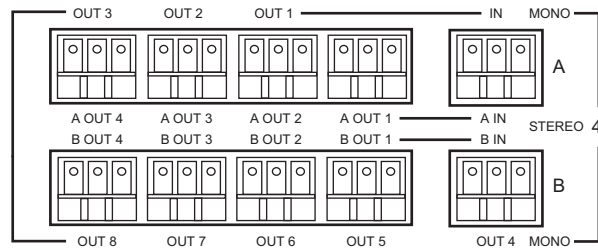

Figure 1.4 *Frame Mating Terminals*
2. Once the cables are wired, install the connectors according to **Figure 1.4**. The frame's mating terminals are marked for both the 8-output mono and the 4-output stereo amplifiers.